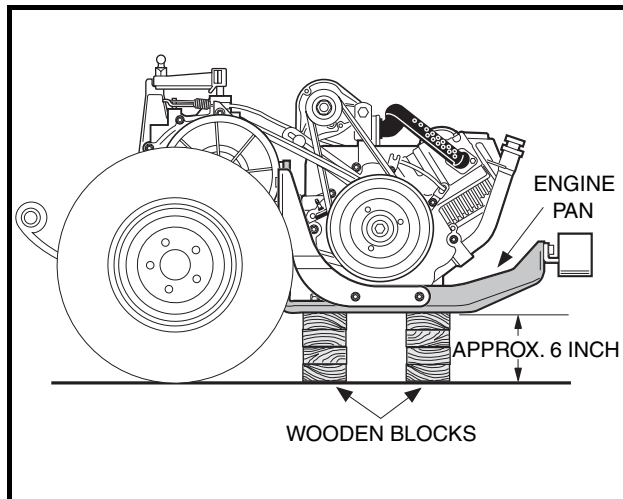

Figure 18-28 Position Powertrain
- Place blocks under the engine pan so they will completely support the engine and keep it level to the floor (**Figure 18-28, Page 18-12**). See following NOTE.